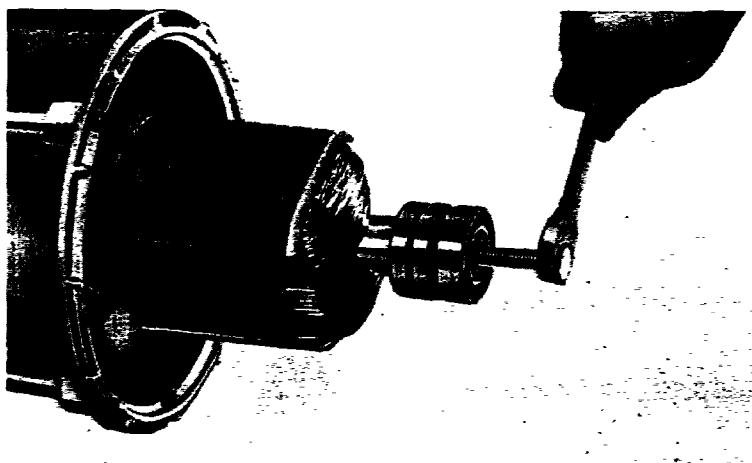

Fig. 10-16
3. As shown in Fig. 10-16, screw up the bolt pushing the rotor puller shaft and remove the rotor.